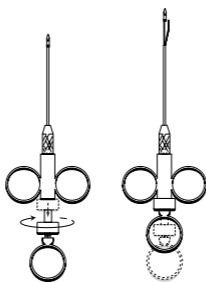

Figure 3
3. Tighten the connecting nut onto the thumb ring. Extend and retract the needle prior to use (**Figure 3**).